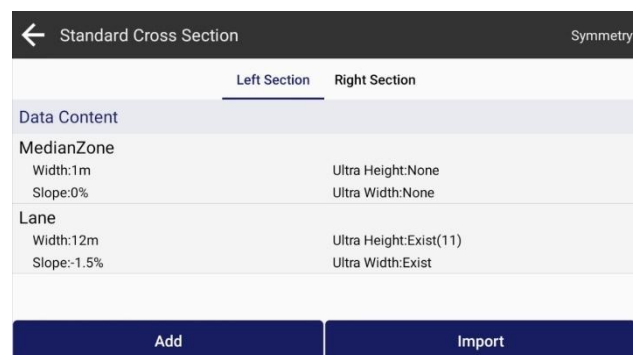

Figure 4.9-6
4. Standard cross section: as shown in Figure 4.9-6. In construction roads, the centerline of the road is only the planned direction of the road, and the road includes sections such as motor lane, non motorized vehicle, sidewalks, hard shoulder, etc. The width, slope, and other parameters of the road design for these sections are called standard cross sections. In roads, Sometimes it is necessary to set the superelevation and widening parameters of the section. Superelevation and widening are set according to the needs of each section and added according to the station.